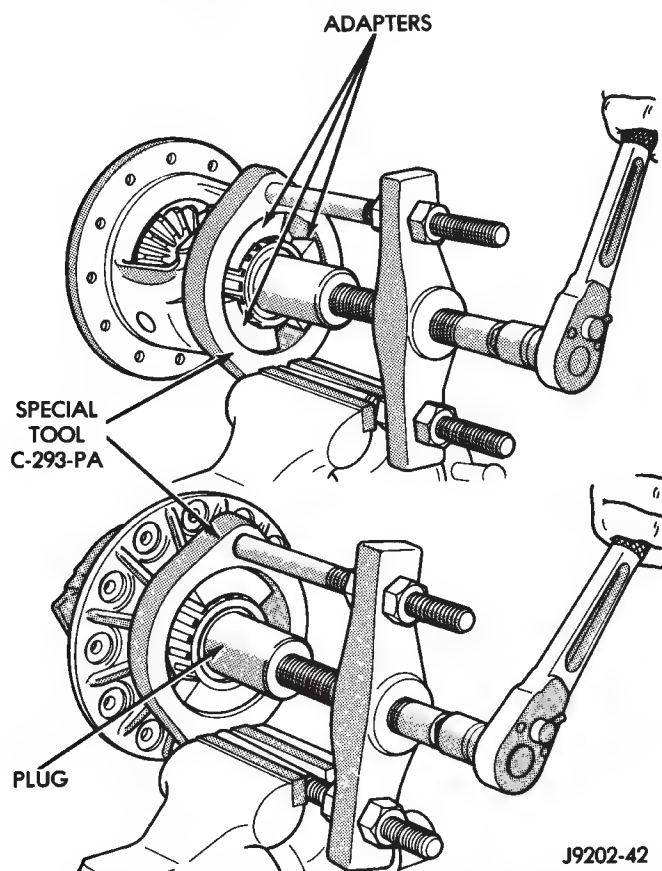

Fig. 27 Differential Bearing Removal
- (1) Remove the bearings from the differential case with Press C-293-PA, Plug C-293-3, Adapter C-293-39 (Fig. 27).